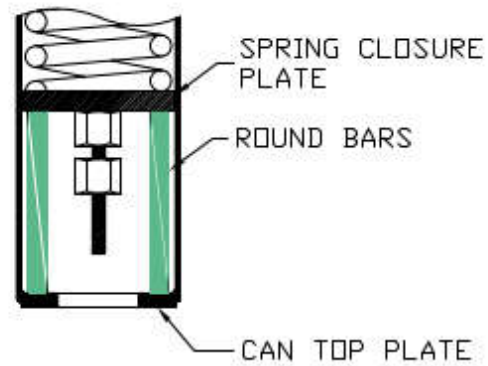

Figure 19D
4. Lower the 4 bottom nuts, then lower the load table to pull in the closure plate until you are able to slide in the 2 round bars cut earlier in step # 2 (colored green in figure 19D on page 22). Make sure that they are placed opposite to each other between the can top plate and spring closure plates.